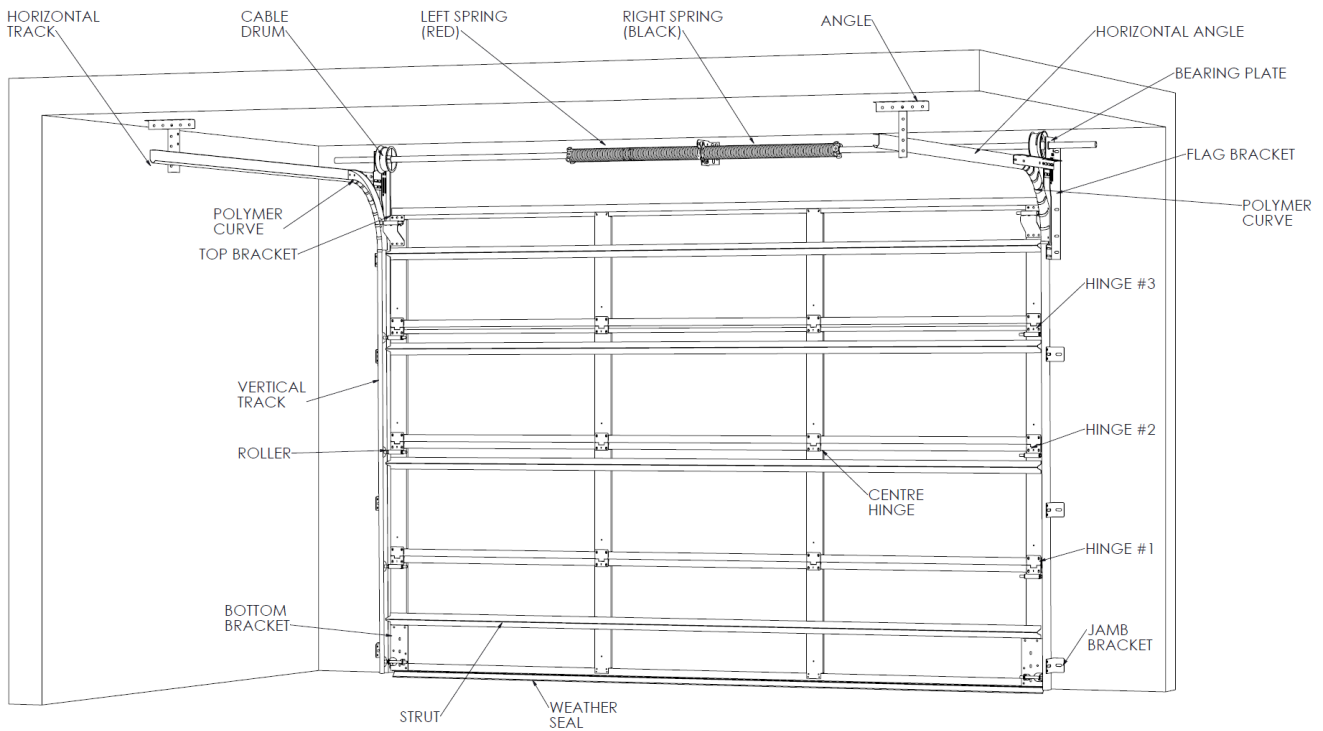

Figure 1
12. Attach any struts to back of panels. Refer to (Figure 1) for strut positions. Attach bottom panel strut just above bottom bracket, and other struts just below the roller wheel.